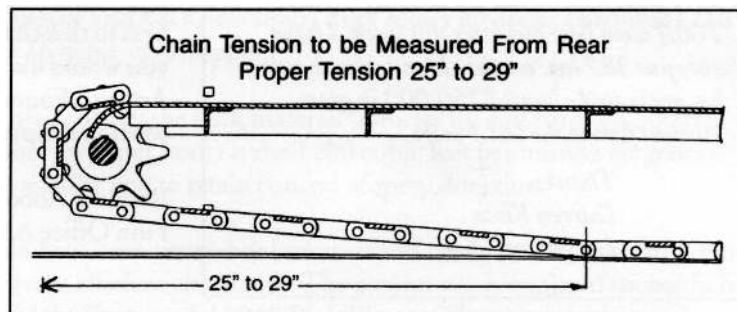

Figure 5
2. Shut the machine off and open the rear access door above the airlock. Remove any built-up material under the floor pan between the chain links and the rear catch pan so that an accurate measurement can be made. Check the tension on the floor chain in the Bark Blower as shown in Fig. 5 below: